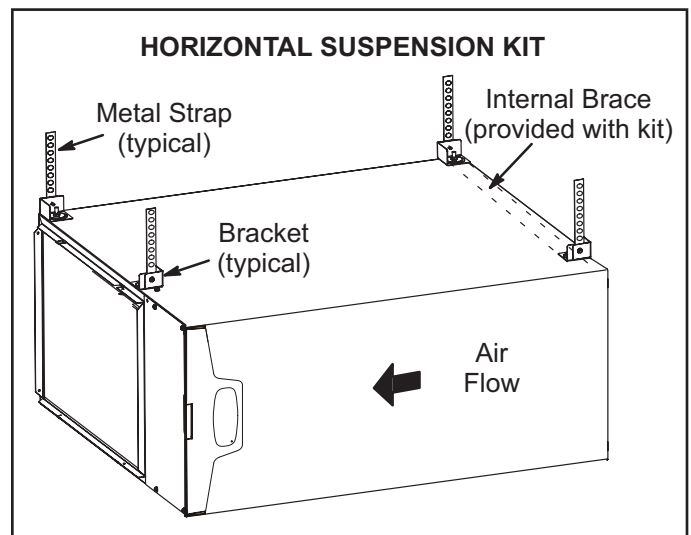

**FIGURE 17**
The ML195UH furnace can be installed in horizontal applications with either right- or left-hand air discharge. Refer to figure 17 for clearances in horizontal applications.
- 1 - Select location for unit keeping in mind service and other necessary clearances. See figure 17.